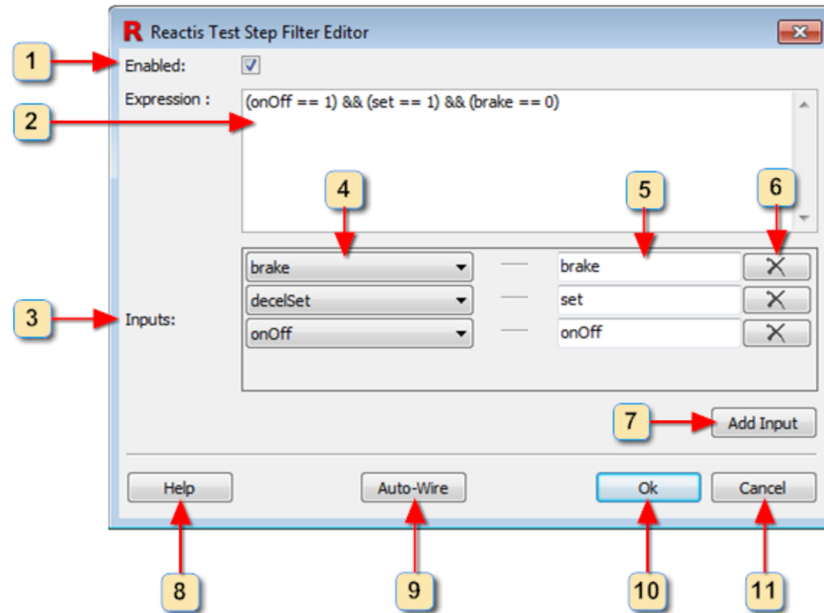

Figure 5.3: The Filter Editor lets you craft more complex filters to search test suites for steps satisfying a particular condition.
16. Clicking this button opens the Filter Editor dialog shown in Figure 5.3. The editor lets you formulate more complicated filters.
Edit Column Filter... Open the Test Step Filter editor shown in Figure 5.3 and described in the subsequent text. The editor lets you create a filter to identify test steps in the test suite that satisfy a particular condition. For example, all test steps in which the cruise control is active.
The Test Step Filter Editor, shown in Figure 5.3, lets you formulate filters to search for test steps in a suite that satisfy a given condition.